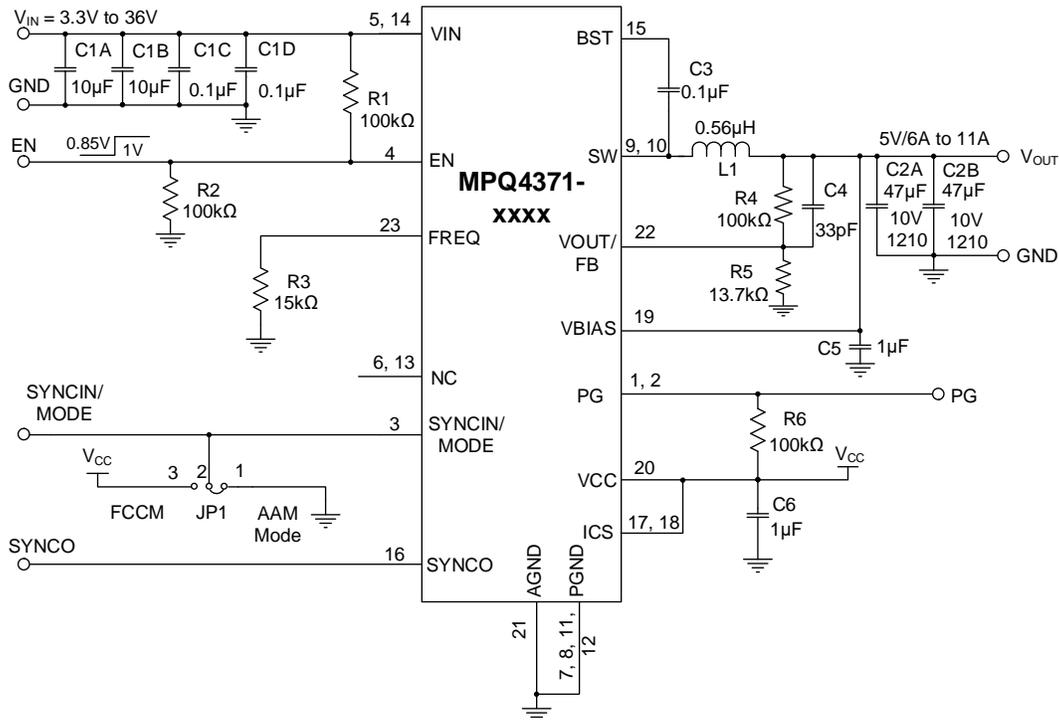

Figure 15: Typical Application Circuit (Single-Phase, V_{OUT} Adjustable for the MPQ4371-xxxx, $V_{OUT} = 5V$, $f_{sw} = 2.2MHz$)
15) The recommended PCB layout is based on Figure 15 on page 75.